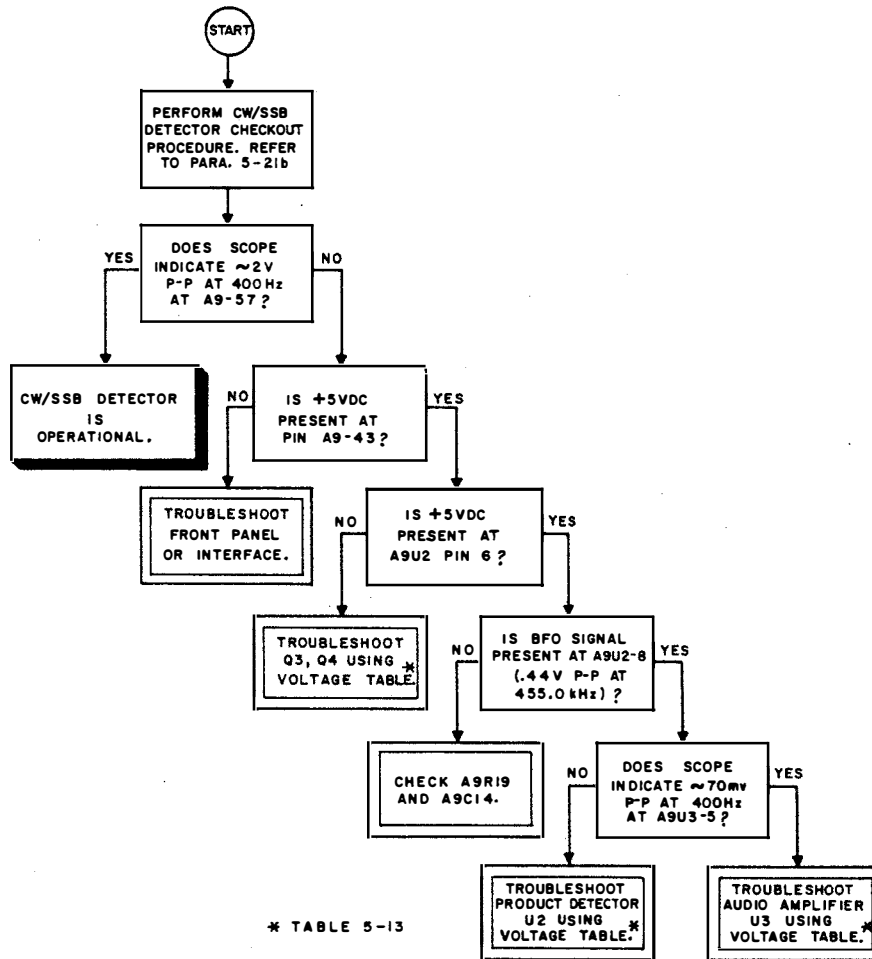

Figure 5-18. CW/SSB Detector Fault Logic Diagram
(1) Figure 5-18, CW/SSB Detector Fault Logic Diagram.